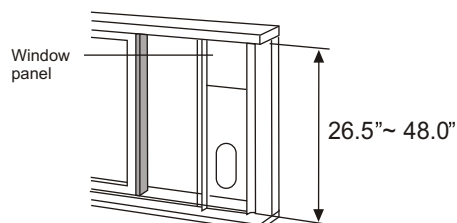

Fig. 13
2. Attach the window slider kit to the window stool. Adjust the length of the window slider kit according to the width of window, shorten the adjustable window kit if the width of window is less than 26.5 inches. Open the window sash and place the window slider kit on the window stool. See Fig.13.